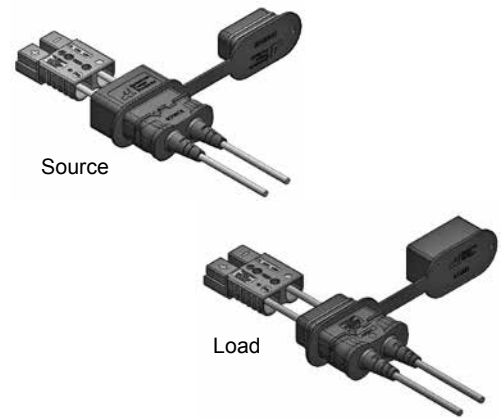

Figure 4
- 8. Slide the connector into the boot by pushing on the connector. (See Figure 4)